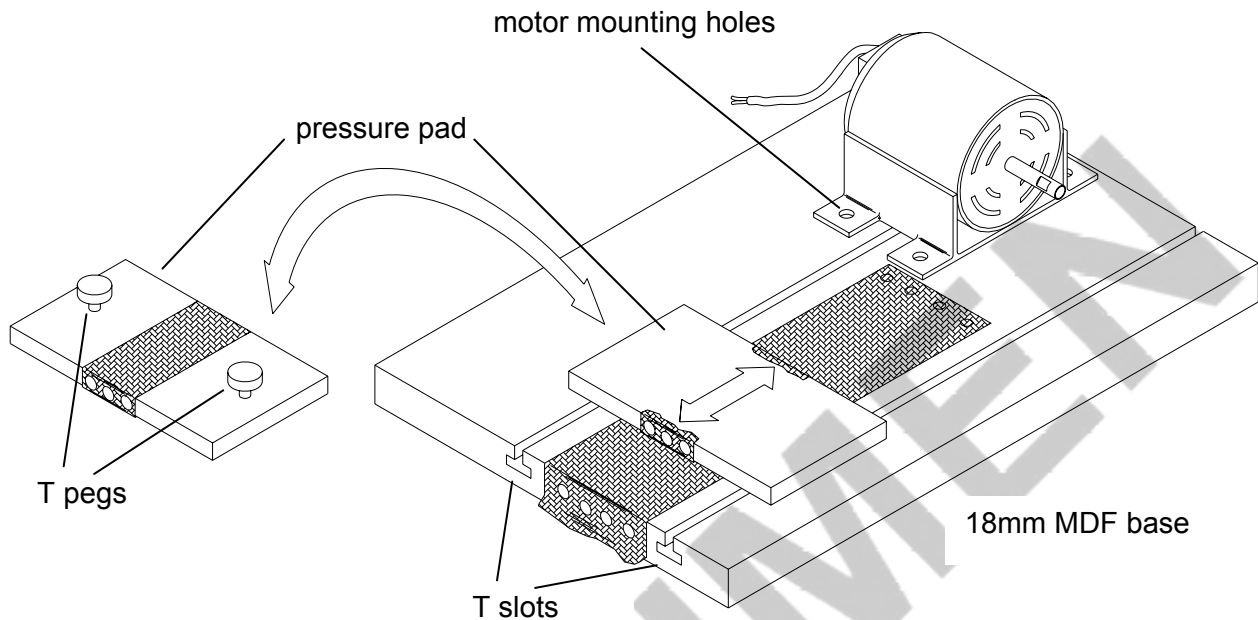

Fig. 11
- 4** A test rig is required to test wear on fabric. Fig. 11 shows part of the rig.